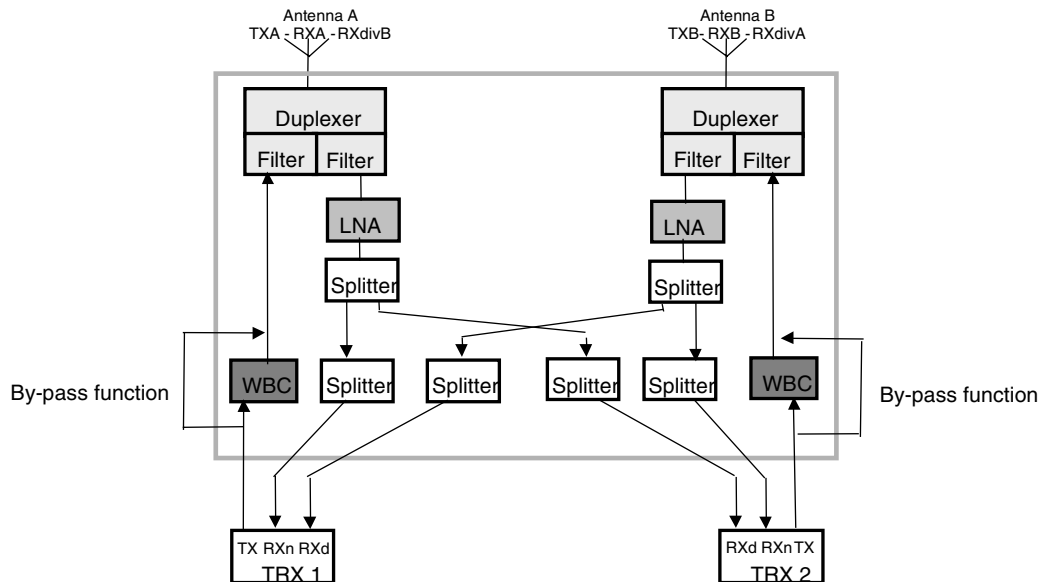

Figure 2 : The Antenna network Combiner (ANc)- No-combining mode
- The **No-combining mode** for configuration up to 2 TRX, for which the Wide Band Combiner is not needed therefore bypassed as shown in the figure 2: